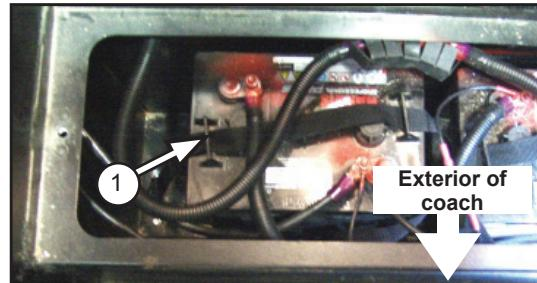

Figure 7
- a. Slide both batteries all the way to the front of the compartment and install Bracket "1" on the bottom surface of the compartment at the location shown on the diagram in Figure 6. Reference also the photo in Figure 7.